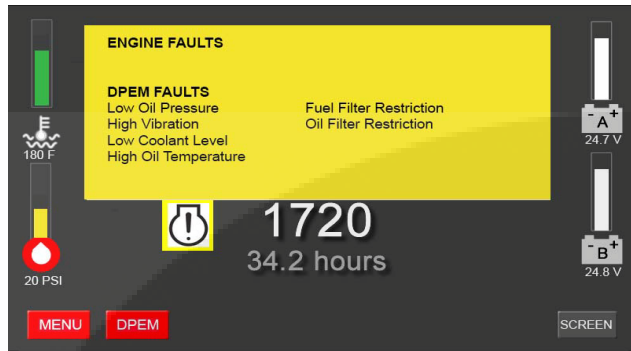

Figure 2-14 DPEM Fault Screen (Sample)
- **From the FPDP** - As shown in Figure 2-14, the warning symbol will illuminate and the overlay will activate in yellow with the text of the active fault.